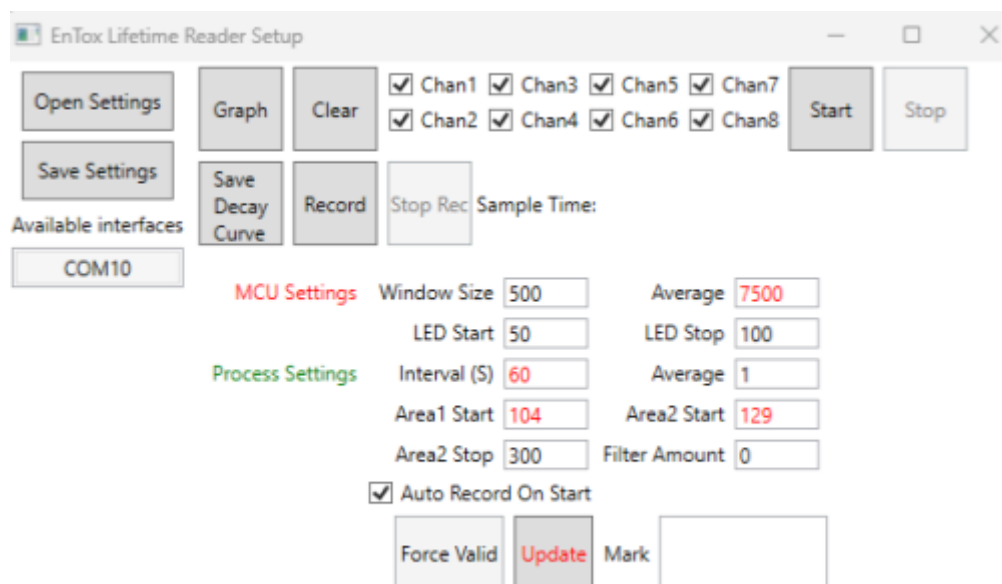

Fig. 7. GUI of the startup window of the O₂ Detection Software.
2. Once the program opens (Fig. 7), ensure the correct COM port and settings are selected. If needed, the COM port may be identified by unplugging and plugging the O₂ detector from the computer so that the port number is displayed. If the COM port is unplugged while the application is running, then the application must be closed and reopened before use.